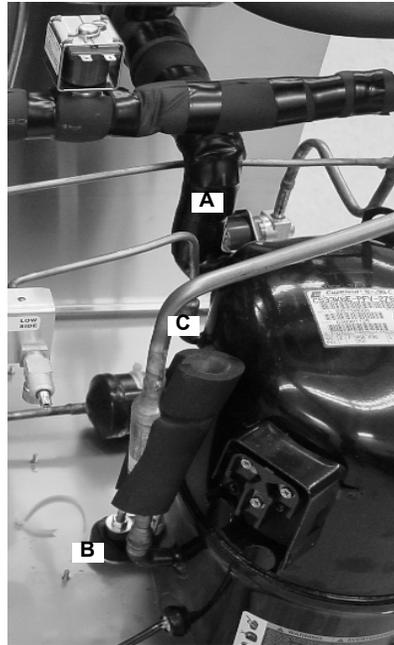

Figure 24.
Remove the insulation from the suction inlet by the crankcase pressure regulator valve (A) (Figure 24).
26. Remove the suction line inlet and the compressor discharge line (B) from the compressor.
27. Remove the low side service valve line (C) from the compressor.
29. Remove and discard the suction line assembly (Figure 24).